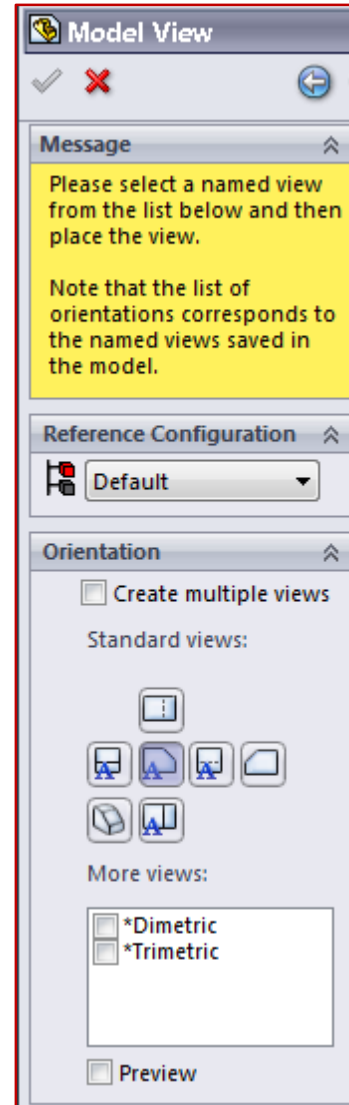

Figure 12.7 – Insert Front View
- ✓ Click **Insert→Drawing View→ Model** on the **Main Pull-down Menu** or click **Model View** on the **CommandManager** to get the dialog box in Figure 12.7.